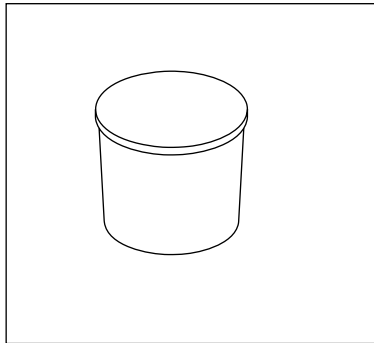

Figure 1-3
- Lubrication Tub - it is use for holding lubrication (shown in figure 1-3).